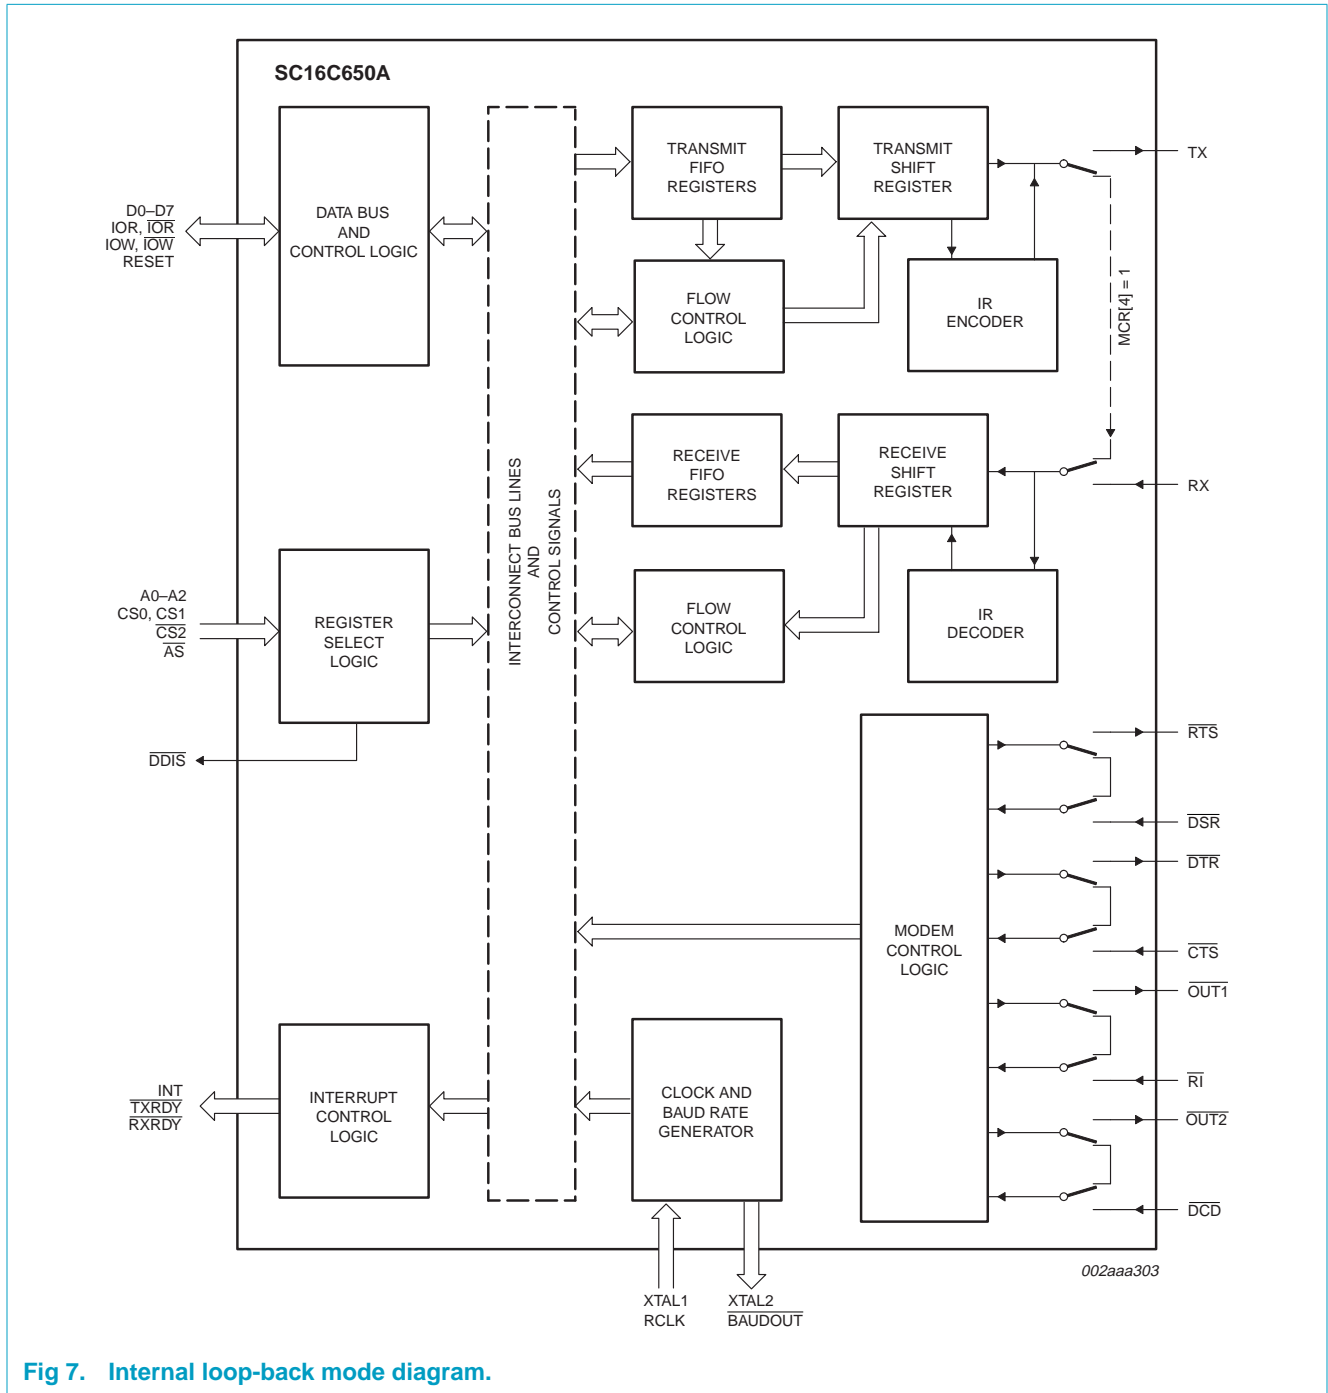

Fig 7. Internal loop-back mode diagram.
The internal loop-back capability allows on-board diagnostics. In the loop-back mode, the normal modem interface pins are disconnected and reconfigured for loop-back internally. MCR[0-3] register bits are used for controlling loop-back diagnostic testing. In the loop-back mode, OUT1 and OUT2 in the MCR register (bits 2-3) control the modem RI and DCD inputs, respectively. MCR signals DTR and RTS (bits 0-1) are used to control the modem CTS and DSR inputs, respectively. The transmitter output (TX) and the receiver input (RX) are disconnected from their associated interface pins, and instead are connected together internally (see Figure 7). The CTS, DSR, DCD, and RI are disconnected from their normal modem control input pins, and instead are connected internally to DTR, RTS, OUT1 and OUT2. Loop-back test data is entered into the transmit holding register via the user data bus interface, D0-D7. The transmit UART serializes the data and passes the serial data to the receive UART via the internal loop-back connection. The receive UART converts the serial data back into parallel data that is then made available at the user data interface D0-D7. The user optionally compares the received data to the initial transmitted data for verifying error-free operation of the UART TX/RX circuits.